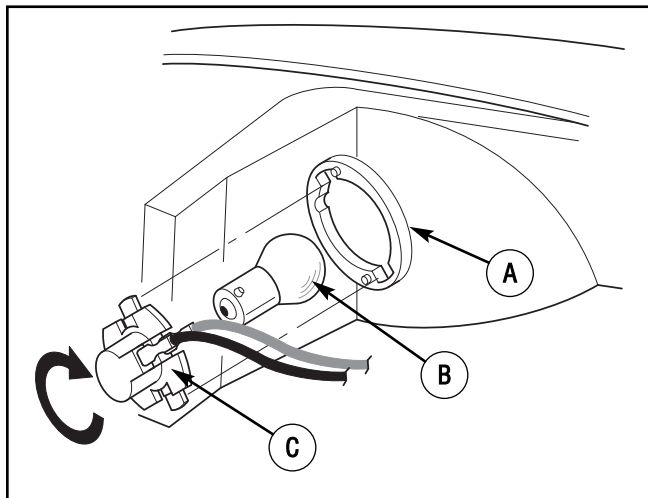

Figure 44: Light bulb replacement
2. Turn the **light socket** until the tabs on the socket align with the notches in the **bezel** (Figure 44). Remove the **light socket**. Turn the **light bulb** and remove the bulb.